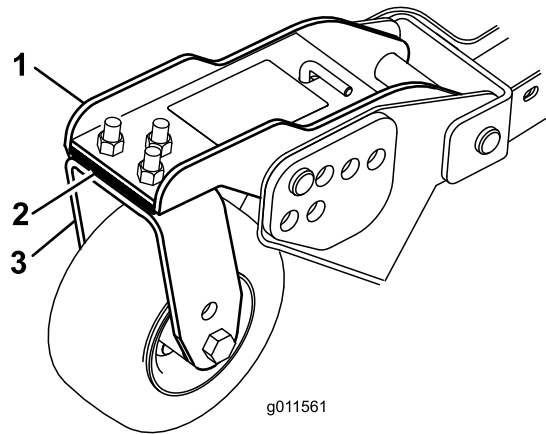

Figure 27
5. If the inside edge of the wing mower deck is too high relative to the outside edge of the front mower deck, remove a 3 mm (1/8 inch) shim from the bottom of the front, inside caster arm on the wing mower deck (Figure 27).